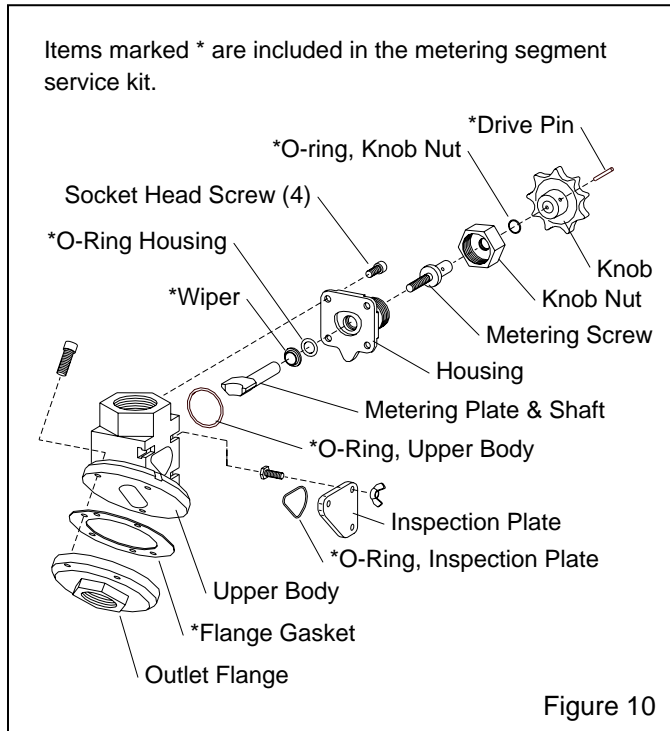

Figure 10
6.7 Quantum Manual Metering Valve, Figure 10